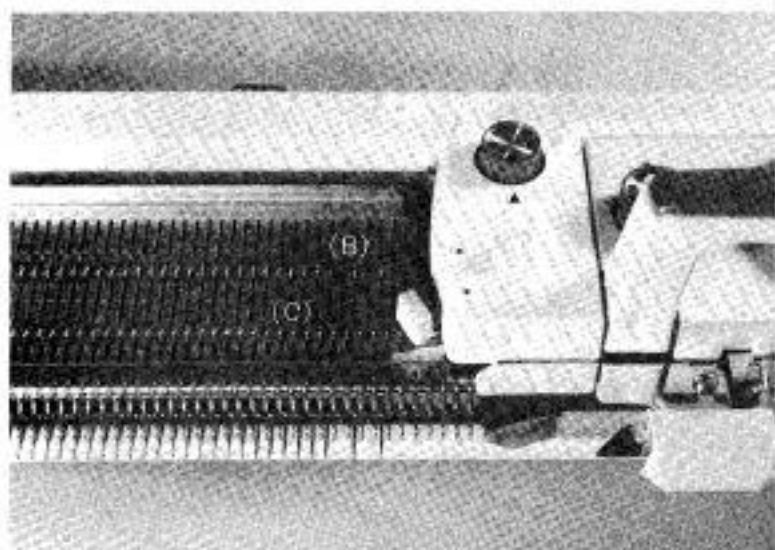

Fig. 85
- 2) Bring forward into Working Position (C) and in the centre of the machine some 40 needles.
- 3) Ensure that all the needle butts are in a straight line and you will observe that when in The Working Position (C) the needle butts are forward of the tip of Needle Guide Cam.
- 4) With the carriage on the right push back into Position (B) the 2nd and 4th needles on the right as shown in Fig. 85. You will see that the butts of the 2 needles in Position (B) are now behind the tip of the Needle Guide Cam.